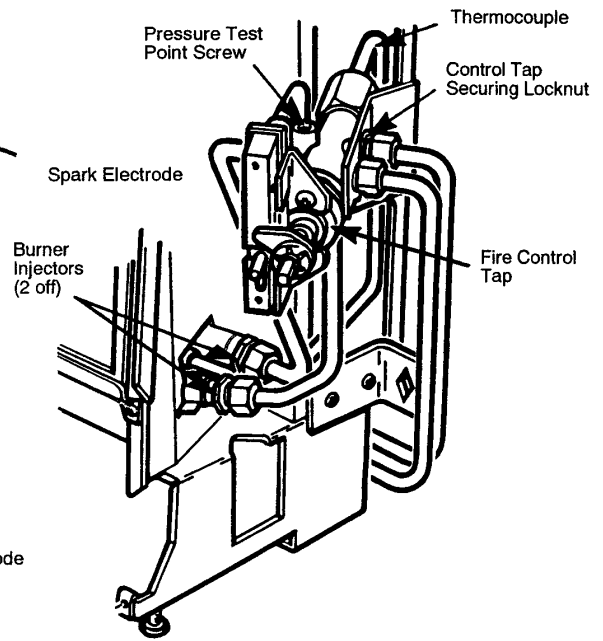

Fig. 11 The Controls
- (b) **To exchange the component** (Fig. 11). (Disconnect the gas supply and remove the fire from the fireplace.) Pull off the plastic cap and disconnect the spark electrode lead from the piezo unit. Disconnect the four tubes at the gas tap. Disconnect the thermocouple from the gas tap. Remove the 3 screws securing the gas tap bracket to the inner case and remove the complete assembly. Remove the locknut holding the gas tap to the bracket and remove the gas tap.
ELECTRO MAGNETIC UNIT (Fig.11 and 13)